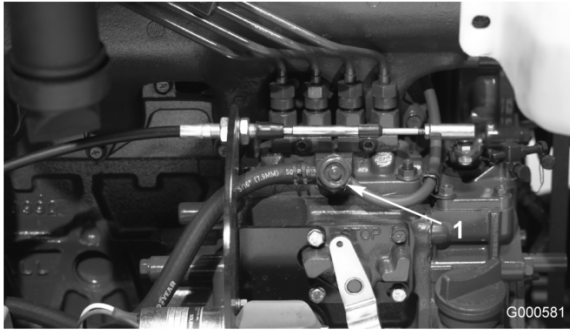

Figure 36
3. Open the air bleed screw on the fuel injection pump (Figure 36).